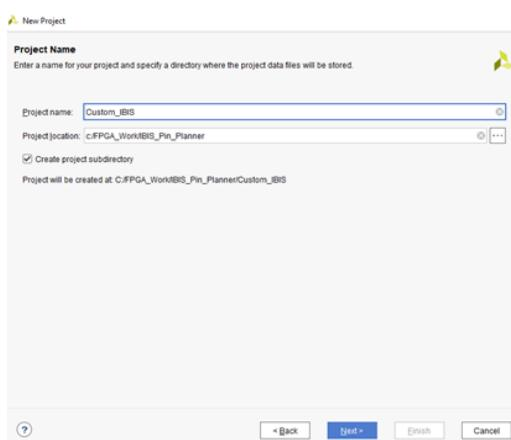

Figure 4: Project Name
- Enter a project name and directory (Figure 4), then click Next: